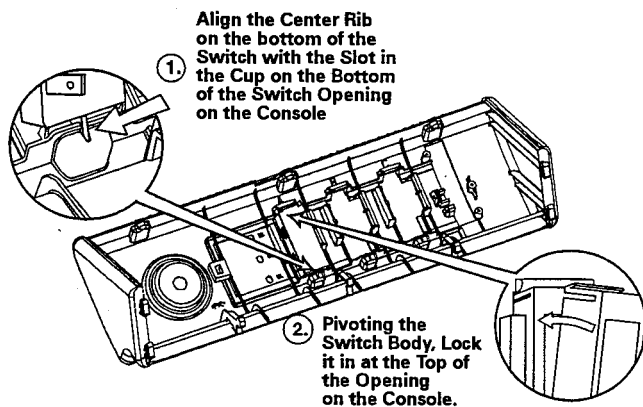

Figure 4-5
1. **To remove** - Depress the tab at the top of the switch with a screwdriver to disengage the tab from the console. Pivot the switch away from the console to remove, (See Figure 4-5).